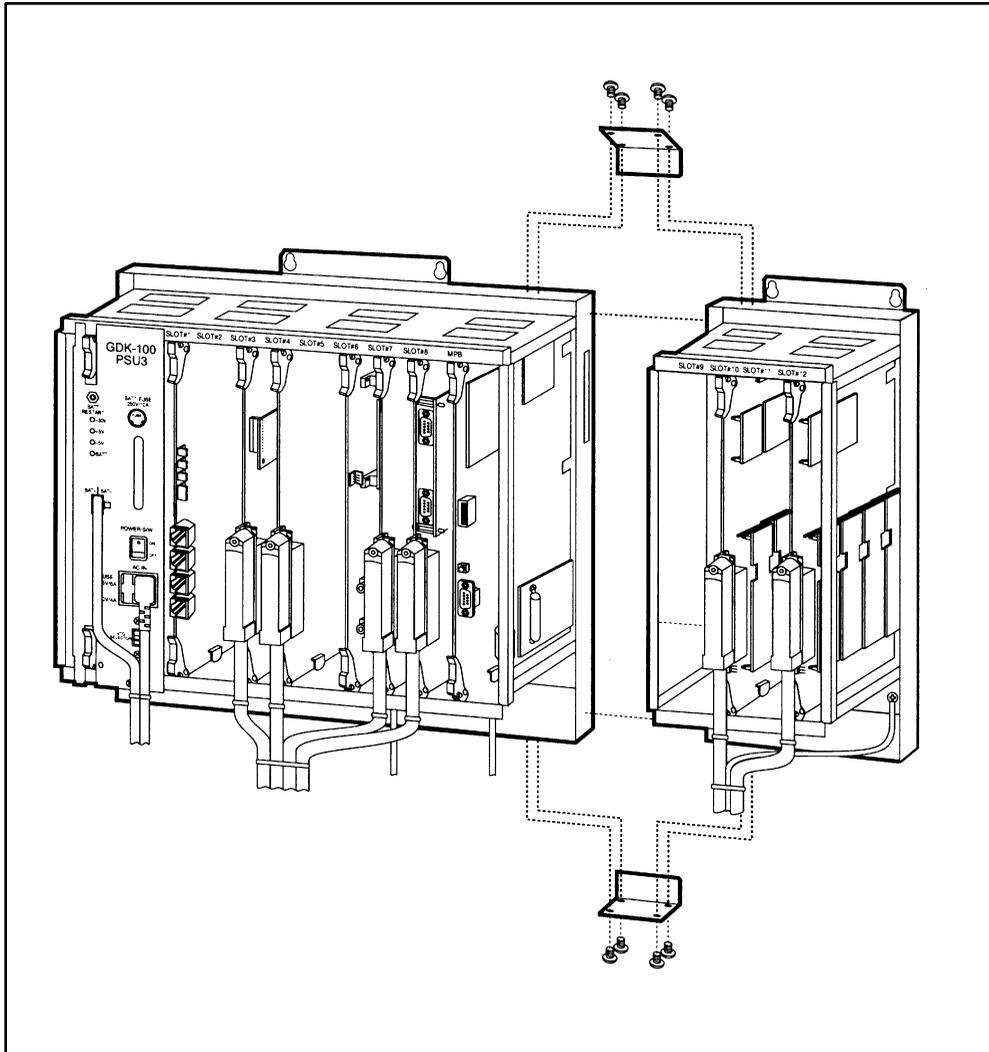

Figure 2-8: Connection of BKSU and EKSU
6. Interconnection is achieved via a amphenol type connector. No cable is used to connect the BKSU and the EKSU together. Refer to Figure 2-8.